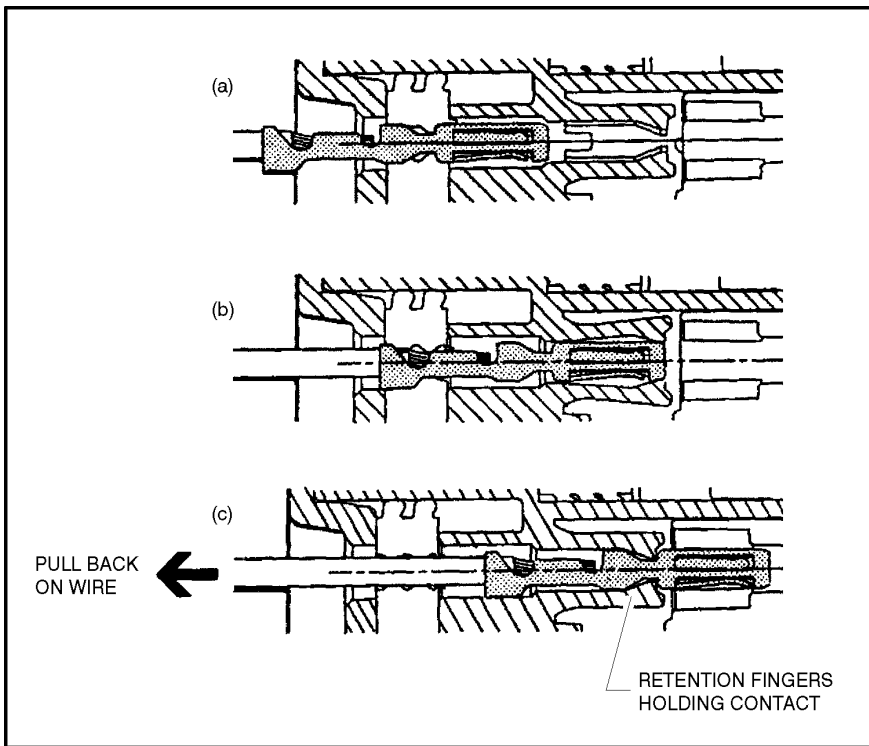

Figure 7-7. Connector Assembly Figure 2
2. Pull back on the contact wire with a force of 1 or 2 lbs. to be sure the retention fingers are holding the contact (See Figure 7-7.).
1. To insert a contact, push it straight into the appropriate circuit cavity as far as it will go (See Figure 7-7.).